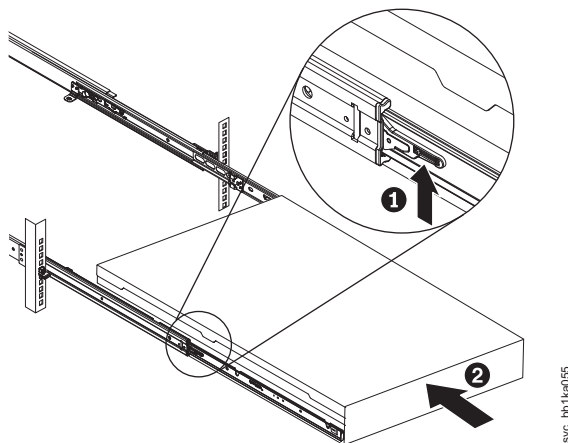

Figure 93. Raising the locking levers of the slide rails of the rack
8. Lift the locking levers (**1** in Figure 93) on the slide rails and push the server **2** all the way into the rack until it clicks into place.